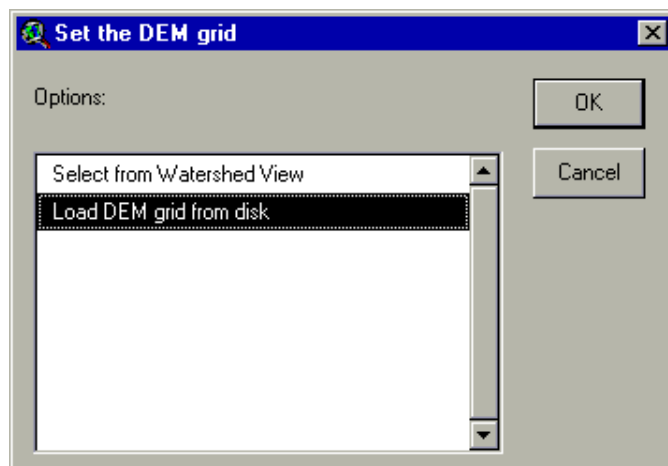

Figure 15.9
2. A prompt box is opened (Figure 15.9)